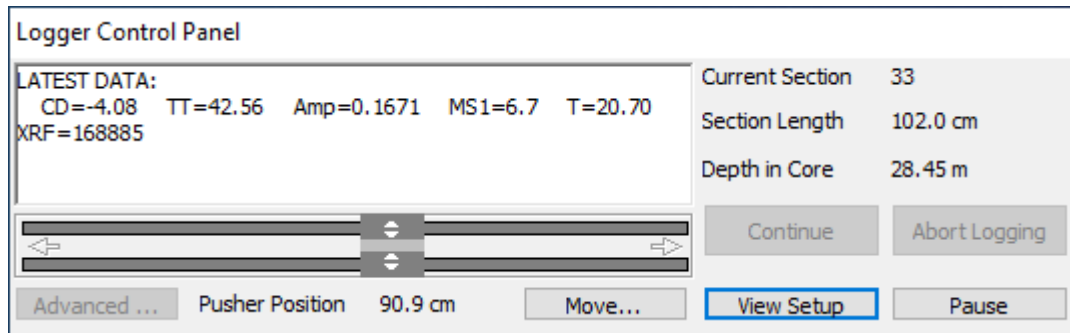

Figure 4.12: Logger Control Panel in MSCL-S software
- Data will be collected from the different sensors according to the information entered into the configuration panel. The logger control panel remains active and informs the user on the current status. It also displays the values of the last data set obtained, Figure 4.12.